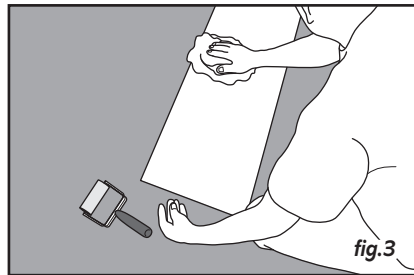

fig.3
- It is important to clean all of the panel's smooth surface (glue side) using a tack rag before each gluing session (fig.3).
- At the end of the joint, use a knife to cut off any excess filler but keep pressure on the end of the joint for about 15 seconds (fig.3).
- Spread the silicon joint using a fingertip (fig.3).
- Then fit the second panel, leaving gaps of 2 mm between the two panels on each side (fig.2 and fig.3).